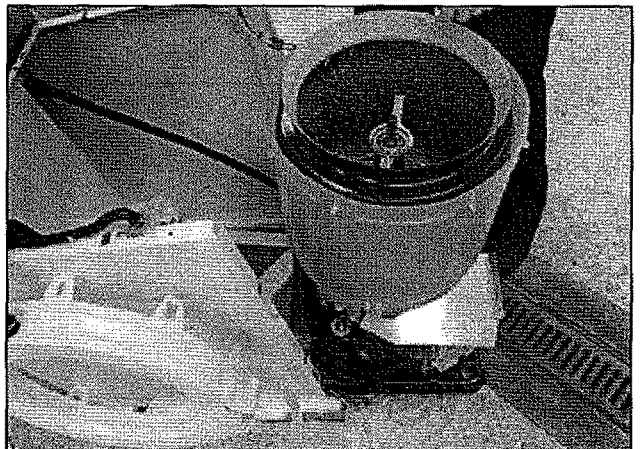

FIGURE 13
14. Slide the base assembly out as shown in the picture. See Figure 13.